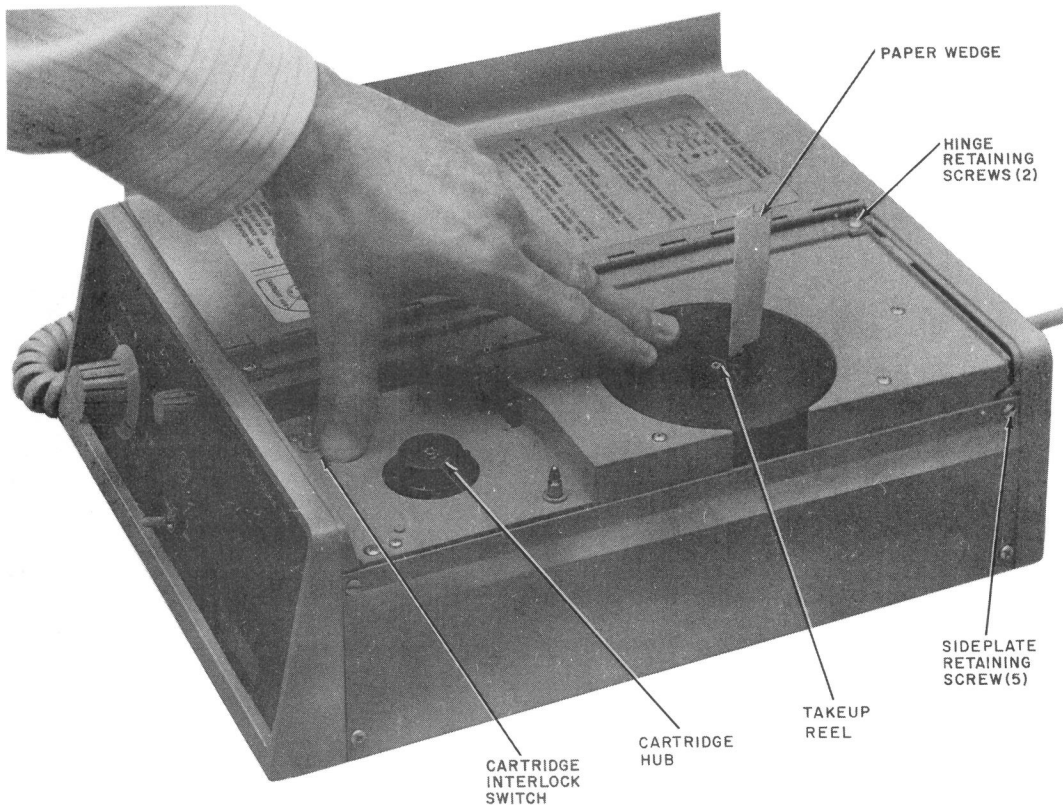
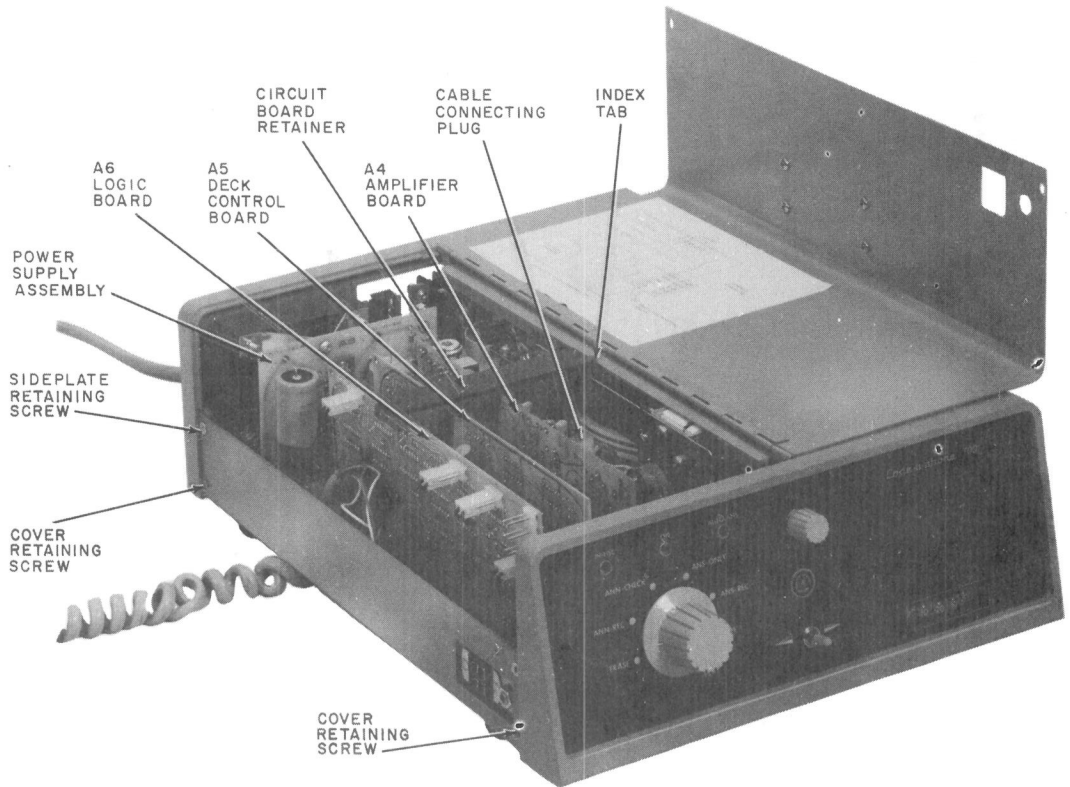

Fig. 2—Resetting "0" Registration on Message Indicator Dial
Fig. 3—Top Cover Removed, Internal View of Components
- (3) Verify the message tape is not at the end limit by making certain that the message indicator dial is reading less than 80.
- (4) Check phone connection at set terminal board for type of service.
- (5) Remove cover retaining screws from left side.
- (6) Lift left side cover and remove circuit board retainer.
- (7) Remove power cord from ac outlet.
- (8) Check options for proper selection.
- (9) Check that A4, A5, and A6 circuit boards are properly installed.
- (10) Check that cable connecting plugs for power supply and tape deck (Fig. 6) on the interconnect board and the cable connecting plug on the A4 board (Fig. 3) are firmly in place.
- (11) Replace circuit board retainer, left side cover and reinsert ac power cord.
- (1) Manual method (Fig. 2).
- (2) Rapid rewind method (Fig. 2).
4.01 Plug-in Circuit Boards (A4, A5, and A6; Fig. 3).
- (1) Remove top cover (Fig. 3).
- (d) Remove two hinge retaining screws (Fig. 2).
- (2) Remove tape deck.
- (a) Remove cable connecting plug for A4 circuit board (Fig. 3).
- (g) Install cable connecting plug for A4 (Fig. 3).
- (6) Install cover.
- (d) Open left side of cover and install circuit board retainer (Fig. 3).